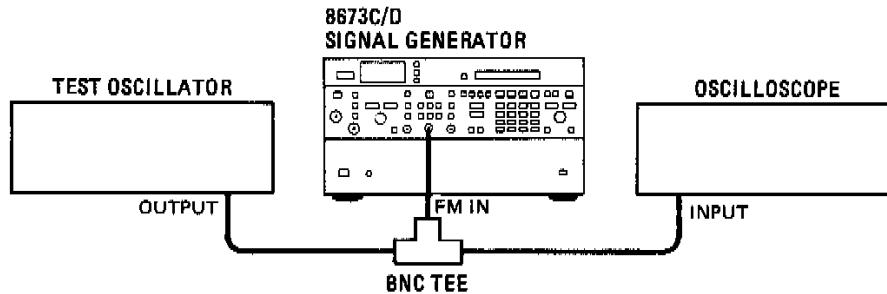

Figure 3-9. FM Functional Check Setup
37. Set the test oscillator to 10 MHz at minimum output level or 0V. Then, connect test oscillator and oscilloscope to the Signal Generator as shown in Figure 3-9.